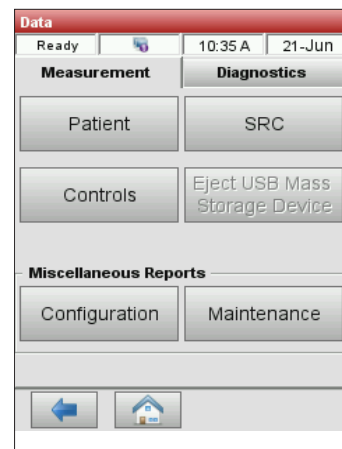

Figure 7. Printing options
2. In the Measurement section, tap **SRC** (figure 7).